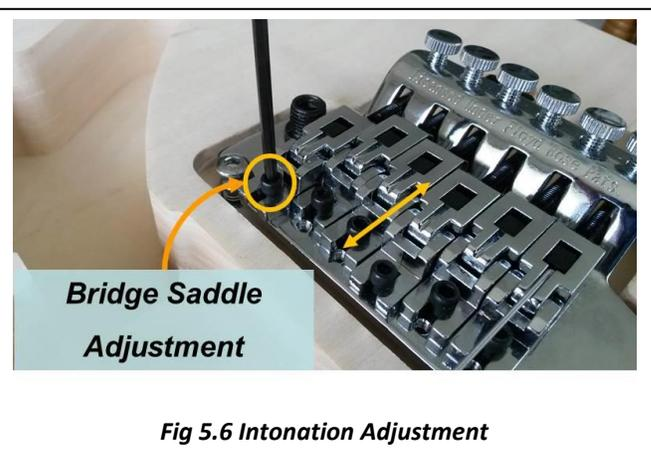

Fig 5.6 Intonation Adjustment
5.6 Intonation \(Figure 5.6\) - 4 -
5.6 Intonation (Figure 5.6)
- b. Then using the Tuner, remove the tension on the Bridge saddle. Loosen the saddle bolt with the supplied 2.5mm Allen wrench (Fig 5.6). Adjust the saddle position in or out as determined in step 4. (Additional movement can be achieved by using the 2nd hole in the bridge to lock down the saddle).